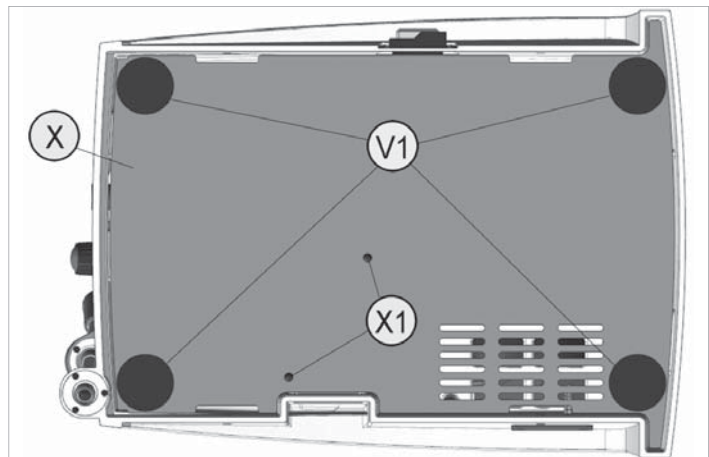

Fig.62
- 6) Put the bottom cover (X) in place and secure with the screws (X1); screw in the 4 feet (V1) (Fig.62).
- 7) Place the bottom cover (X) in position, secure with the screws (X1) and screw in the 4 feet (V1) (Fig.62).
- 8) Place the machine upright on the worktop and insert the swarf tray (V).
- 6) Place the bottom cover (X) in position, secure with the screws (X1) and screw in the 4 feet (V1) (Fig. 62).
- 6) Place the bottom cover (X) in position, secure with the screws (X1) and screw in the 4 feet (V1) (Fig.62).
- 7) Place the machine upright on the worktop and insert the swarf tray (V).
- 5) Place the bottom cover (X) in position, secure with the screws (X1) and screw in the 4 feet (V1) (Fig.62).
- 6) Place the machine upright on the worktop and insert the swarf tray (V).
- 8) Place the bottom cover (X) in position, secure with the screws (X1) and screw in the 4 feet (V1) (Fig.62).
- 9) Place the machine upright on the worktop and insert the swarf tray (V).